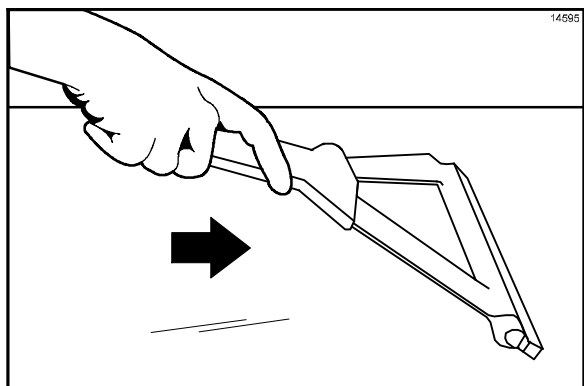

Figure 33
- Using the wiper squeegee, push the grease at the rear of the lower grill plate into the grease can. **Do not** use the grill scraper for this step. (See Figure 33.)